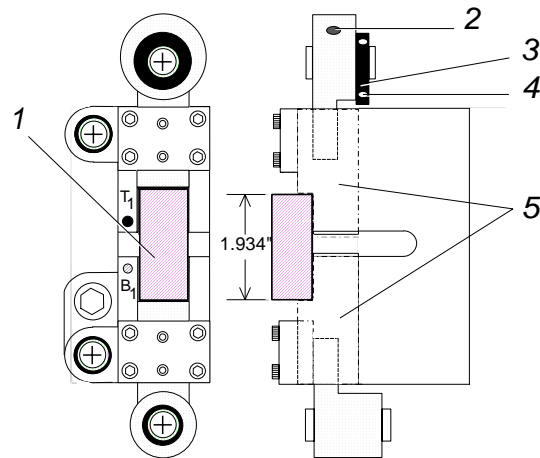

Figure 19 Die Block Assembly Slide Travel
2. Insert provided 1.934" gauge block (Figure 19, Item 1) while manually turning machine's hand crank until die block slides (Item 5) are fully closed.